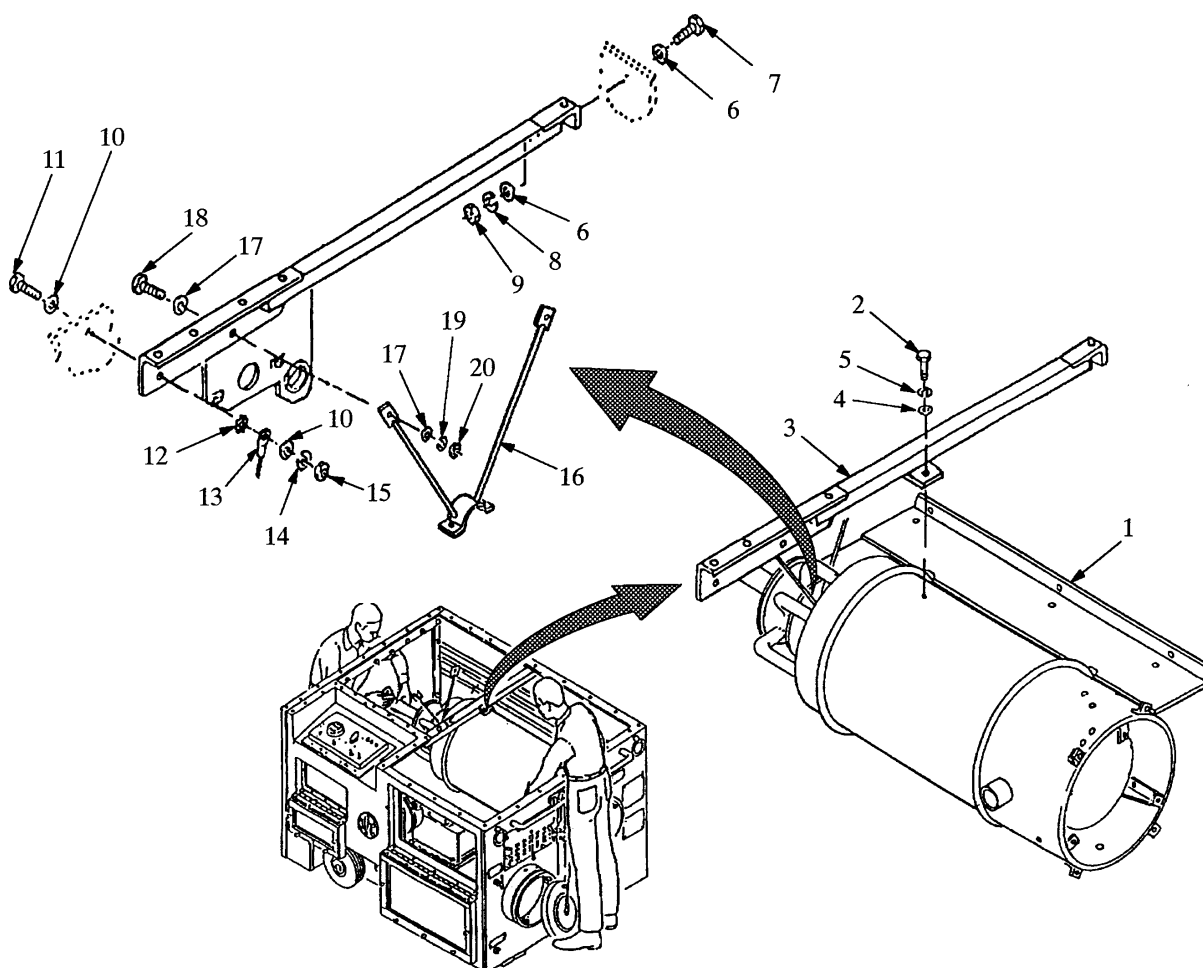

Figure 5-18.1. Heat Exchanger, (Model H120-1) Installation
f. Installation (Refer to Figure 5-18.1)
- (1) Lift the heat exchanger assembly (1) into the unit through the rear.
- (2) Apply anti-seize compound (Item 3, App E) to screw (2). Align the top of heat exchanger (1) with the tab on brace (3), install flat washer (4), lockwasher (5) and screw (2). Hand tighten only.
- (3) Install brace (3), secure left end of brace with two flat washers (6), screw (7), lockwasher (8) and nut (9). Secure the right end of brace with two flat washers (10), screw (11), star lockwasher (12), ground lead (13), lockwasher (14), and nut (15).
- (4) Secure clamp (16) to brace (3) with four flat washers (17), two screws (18), two lockwashers (19) and two nuts (20).